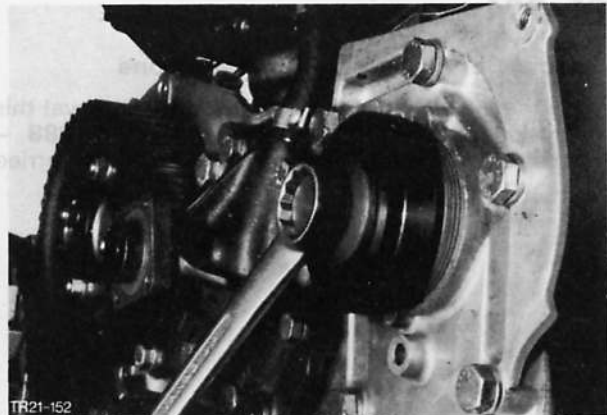

Fig. 134. Fit camshaft oil seal using Special Tool 21-017
13. Lubricate camshaft oil seal lip and using Special Tool 21-017 with bolt carefully press fully home, Fig. 134 ensuring camshaft alignment is not disturbed. Then again remove bolt.